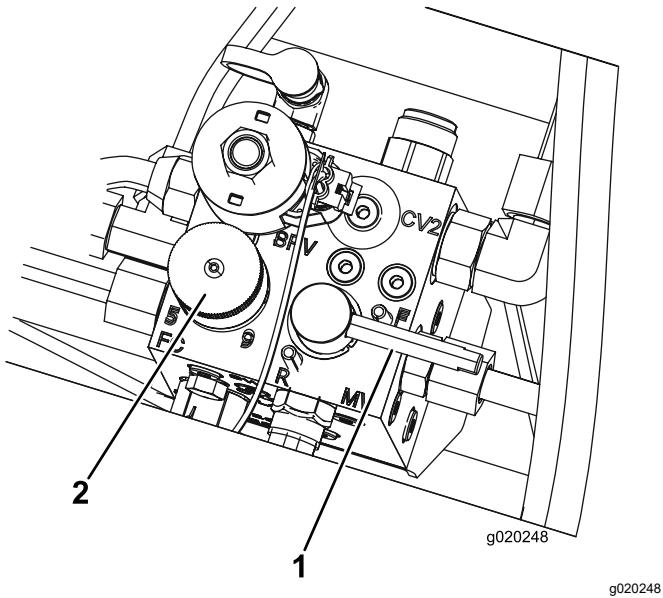

Figure 99
3. Move the backlap lever to the F (mow) position (Figure 99).